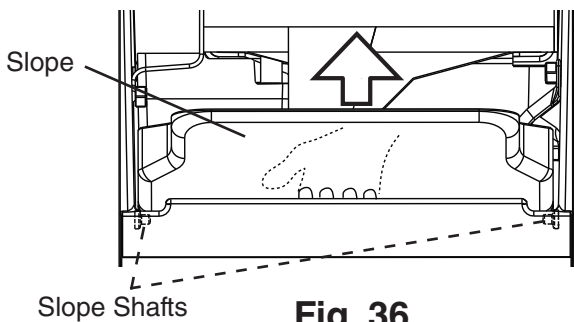

Fig. 36
- 2) Remove the slope from the ice storage bin by carefully bending it in the center and releasing it from the 2 slope shafts. See Fig. 36.